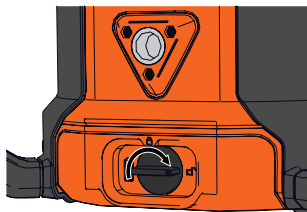

Figure 4
1. Push in and turn the battery lock knob clockwise to the “Unlock” position. (Figure 4)